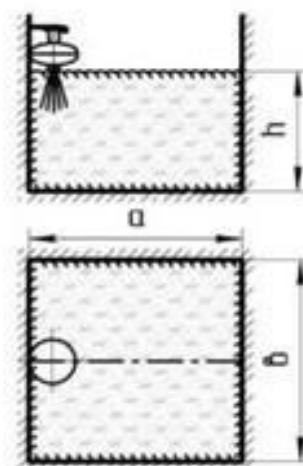

Figure 6
6.6 The configuration of the powder dispersion and the representation of the extinguishing surfaces for ceiling mounting are shown in Figure 4 and Tables 2 and 3, and for wall mounting in Figure 6 and Table 4.